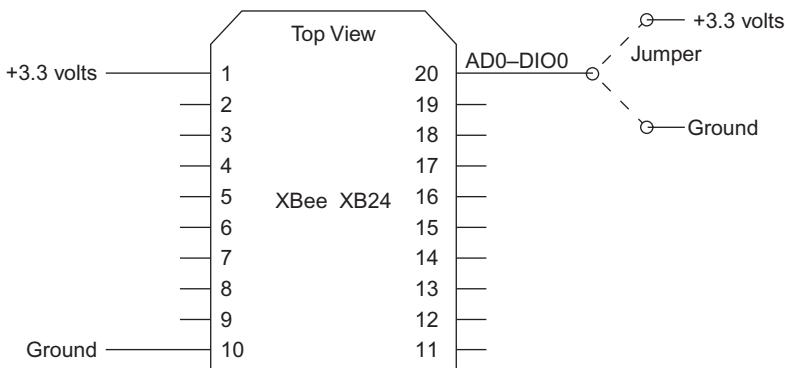

Figure 4.1 Connections for the XMTR XBee adapter in a solderless breadboard for a remote-control experiment.
Step 1. You will use the same experimental setup used in Experiment 3 for the XMTR module, as shown in Figure 4.1. This figure shows the placement of a jumper wire at the AD0-DIO0 input so you can place a logic-0 or a logic-1 signal on the AD0-DIO0 pin.
Step 6. The XMTR module requires a wire on the breadboard between pin 20 (AD0-DIO0) and +3.3 volts, as shown earlier in Figure 4.1. This wire provides a logic-1 or a logic-0 input for the DIO0 input pin. If your XMTR module does not have this connection, add it now.